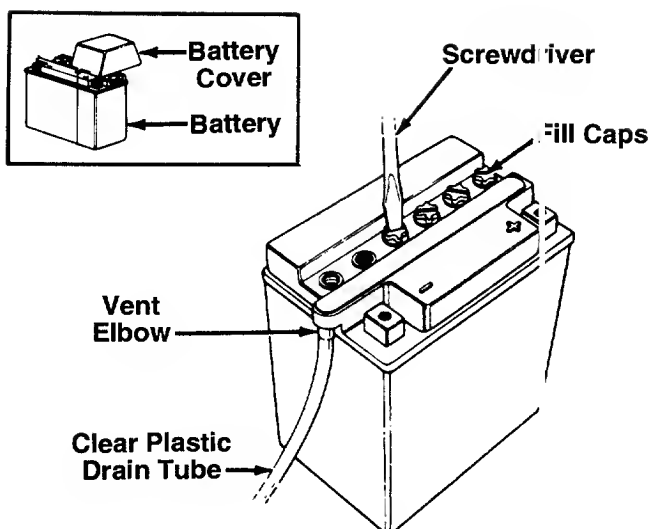

FIGURE 2.
1. Lift the seat. Remove the battery cover by pressing in on the sides and lifting up. See figure 2, inset. Remove the battery from the rear frame.
4. Remove the six fill caps from the top of the battery. Be careful not to damage the fill caps. See figure 2.